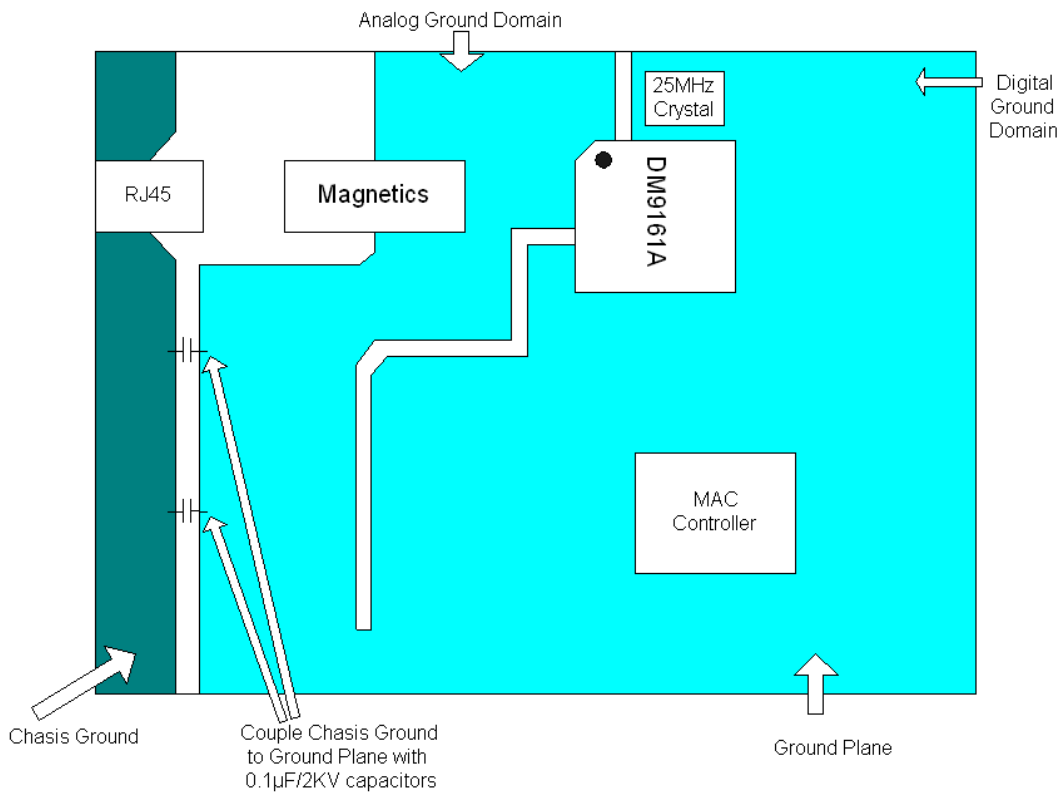
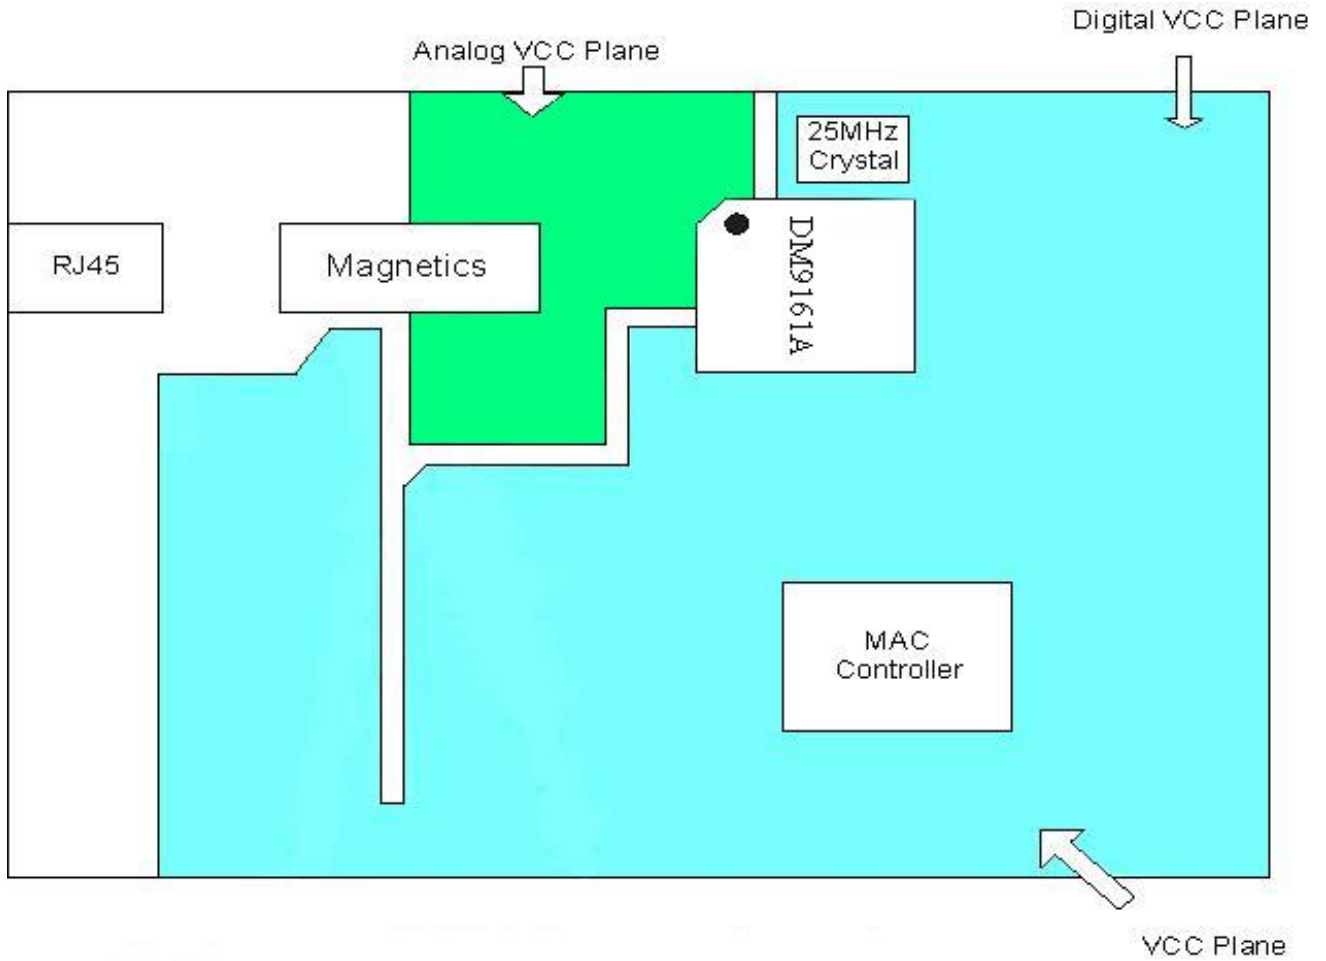

Figure 3-1
Figure 4
- The network interface (see Figure 3-1 and Figure 4) does not route any digital signal between the DM9161A RX±and TX±pairs to the RJ-45. Keep the two pairs away from all the other active signals and the chassis ground.
- The power planes should be approximately illustrated in Figure 4.